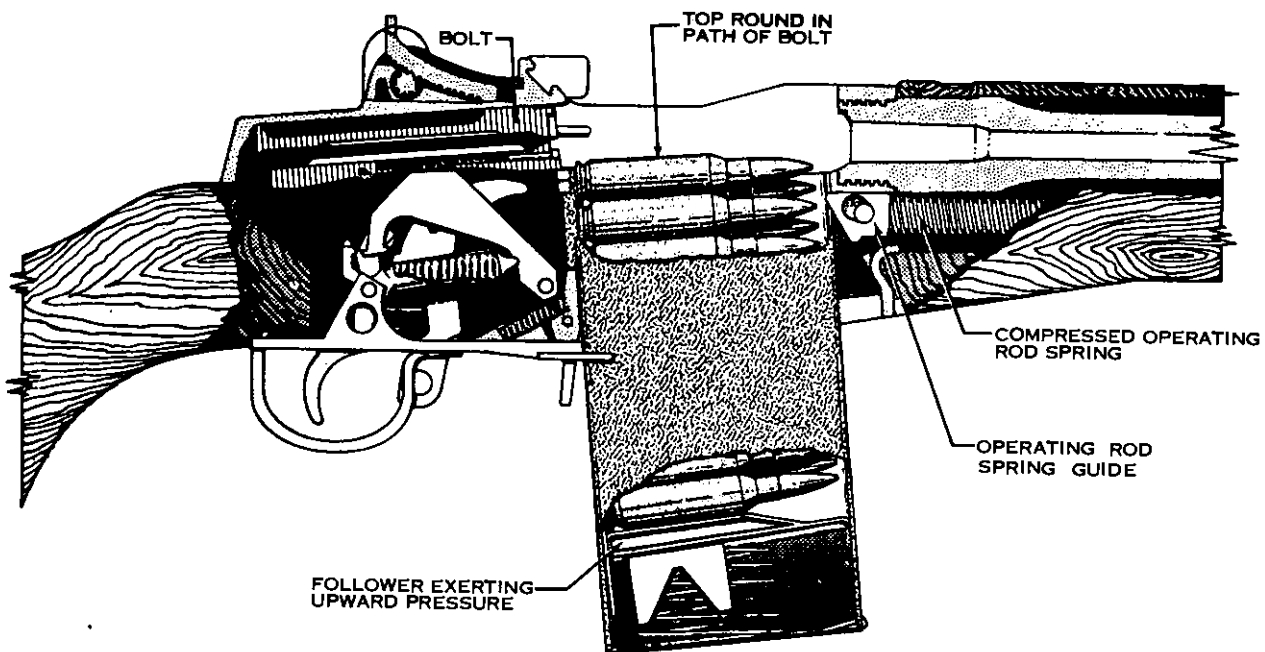

Figure 30. Feeding.
- (1) *Feeding.* Feeding takes place when a round is forced into the path of the bolt. The top round is forced into the path of the bolt by the magazine follower which is under pressure of the magazine spring (fig. 30).